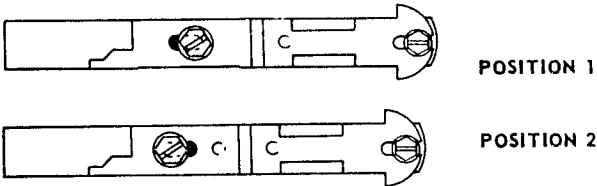

Figure 16. Subtract Plate Positions.
5. To adjust the Subtract Adjustment Plate, first loose the adjustment screw. The screw can be reached when the Cancel Slide is pushed in. Adjust the plate to Position 1 or Position 2 as required, see *Figure 16*. Tighten screw.